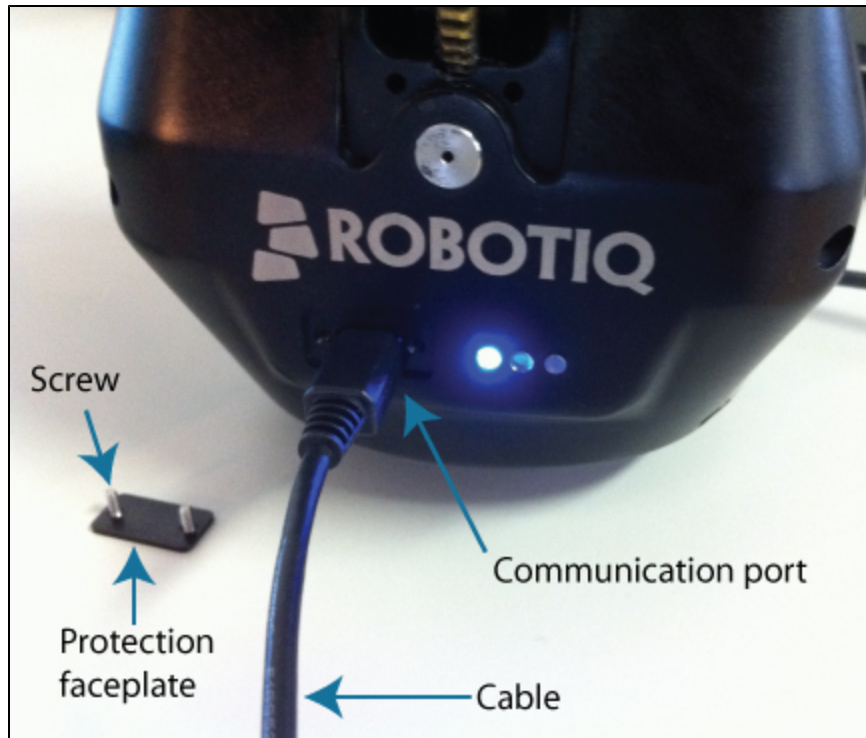

Figure 5.2.2: Unscrewing the USB port panel and connecting the USB 2.0 Micro cable.
2. Remove the USB port panel by unscrewing the two screws (shown in Figure 5.2.2). A Phillips screwdriver is needed.
4. Replace the USB port panel by screwing back the two screws (shown in figure 5.2.2). A phillips screwdriver is needed.